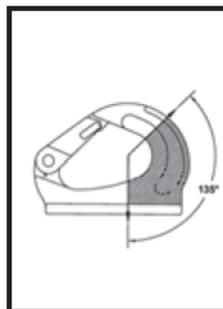
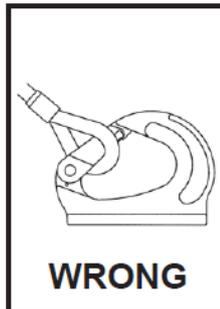

Figure 2
Figure 3
- Always make sure the hook supports the load. The load is to be applied within the range shown in Figure 2. The latch must never support the load (See Figure 3).